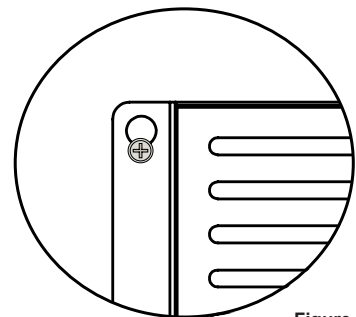

Figure 3
If you installing the GB-AVSTOR3 through a 24" x 48" ceiling tile opening, attach a 24" T-bar frame (commercially available) in the 24" x 48" ceiling tile frame for support and place a 2' x 2' ceiling tile adjacent to the GB-AVSTOR3 (Figures 3 and 4).
- 3) Hook the mounting tray onto the heads of the M5 x 8mm Phillips head screws on the GB-AVSTOR3 (Figure 3).
- 4) Insert two (2) M5 x 8mm Phillips head screws into the middle mounting holes of the mounting tray.
- 5) Use a Phillips tip screwdriver to tighten all six (6) screws.